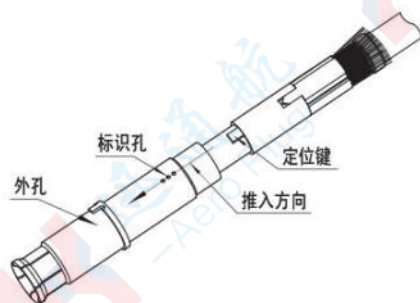

图2.12 插孔绝缘子的定位键正对外孔的标识孔
- 5) Align the locating key of the socket insulator with the index hole of the outer contact, push the entire assembly into the outer contact, and press the crimp sleeve tightly, as shown in Figures 2.12, 2.13, and 2.14.